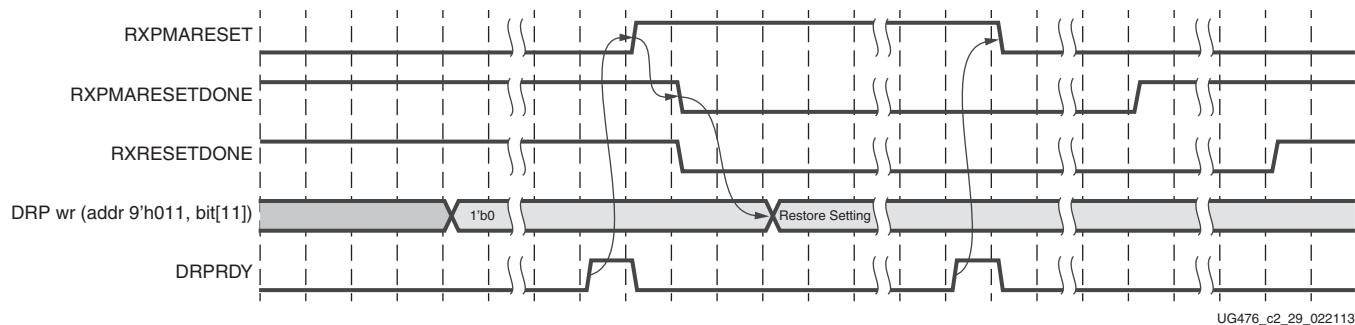

Figure 2-25: GTH Transceiver RXPMARESET Sequence
When users want to issue an RXPMARESET, the steps in Figure 2-25 should be performed.
Notes relevant to Figure 2-25:
2. The sequence of events in Figure 2-25 is not drawn to scale.